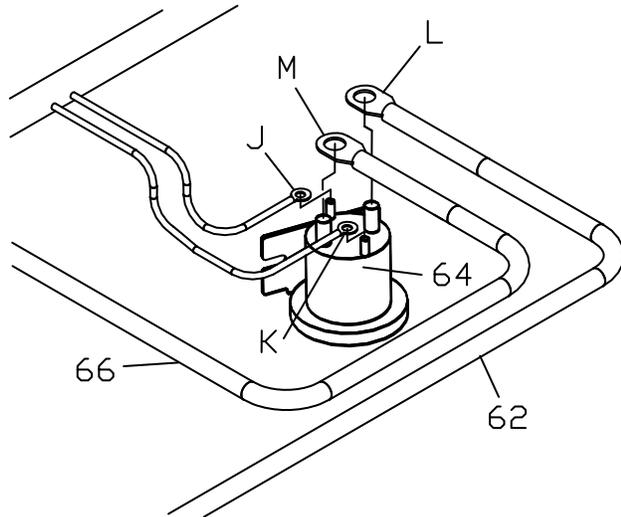

Figure 24. Solenoid Connections. G10145
22. Attach Power Unit Solenoid (64) securely inside the engine compartment. The Power Unit Solenoid should be mounted in the upright position as illustrated in Figure 24.